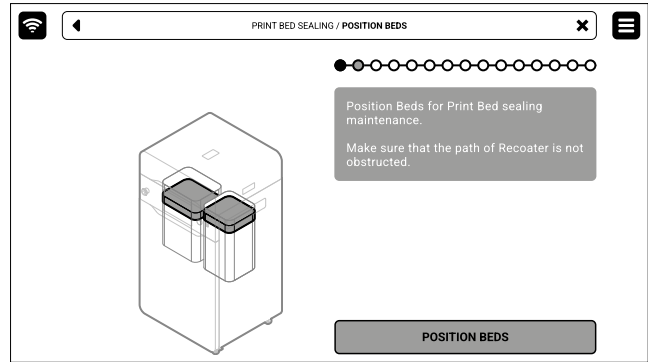

Fig. 13.27 The **POSITION BEDS** screen.
7. Press **POSITION BEDS** to begin the positioning process of the Beds (fig. 13.27).